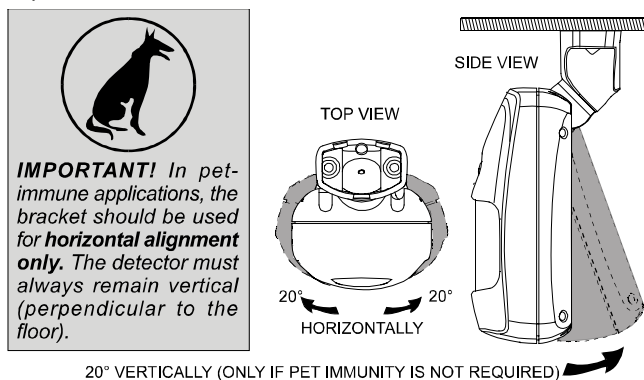

Figure 7. Tilt/Swivel Limits
H. Swivel the detector horizontally to face the desired direction, but **do not tilt it if this is a pet immune application**. However, if pets are not present it is advisable to tilt the detector as much as 20° down. Figure 7 shows the tilt/swivel possibilities.